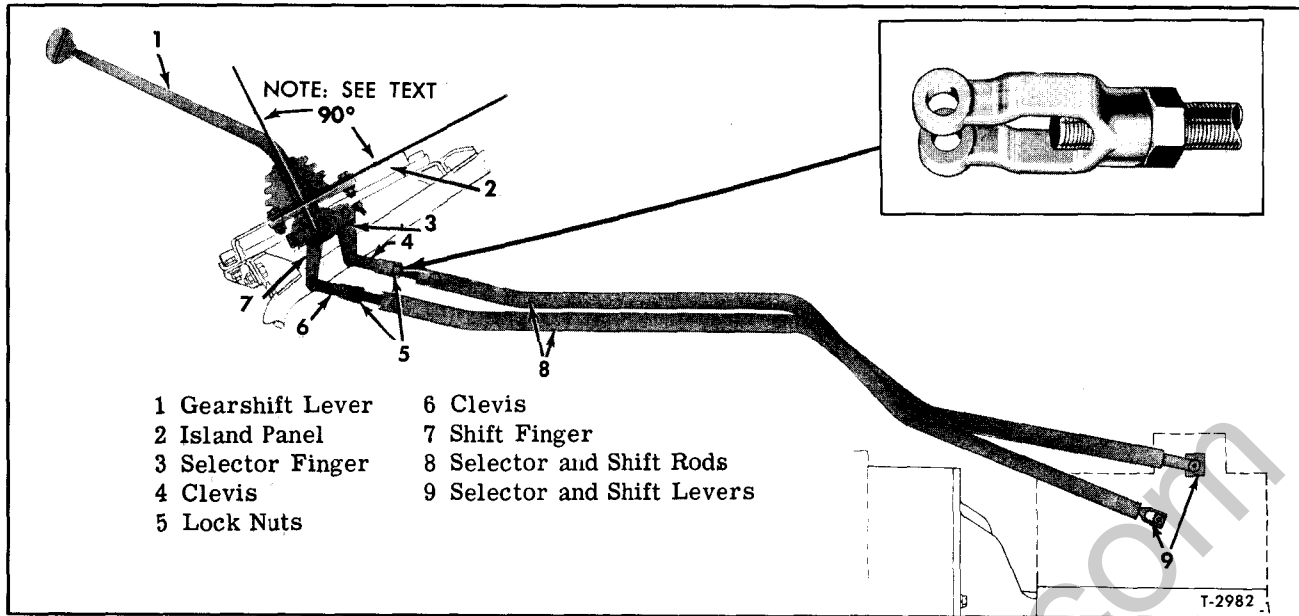

Figure 1—Tilt Cab Transmission Control Linkage (70-80 Series)
NOTE: Key numbers in text refer to figure 1.
Adjustment is accomplished by rotating the adjustable clevis (see Inset, fig. 1) at either the control island or transmission end of the selector and shift rods (8). Tighten lock nuts securely.